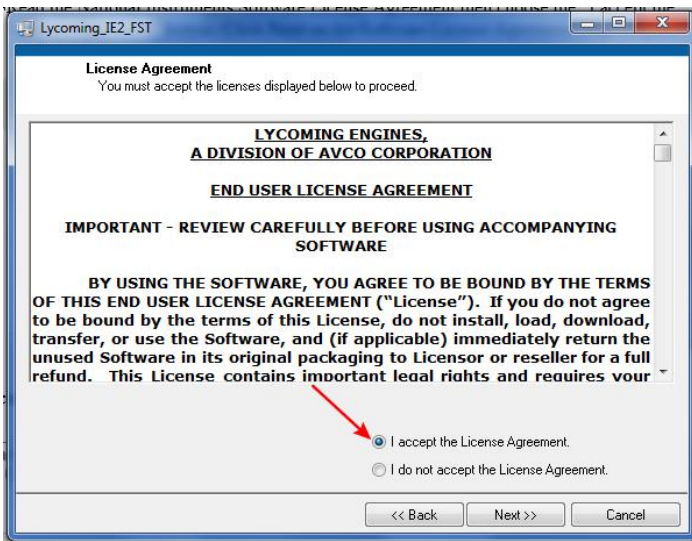

Figure 14
14. Read the Lycoming Software License Agreement then choose the “I accept the License Agreement” button. Click **Next** on the License Agreement page (Figure 14).